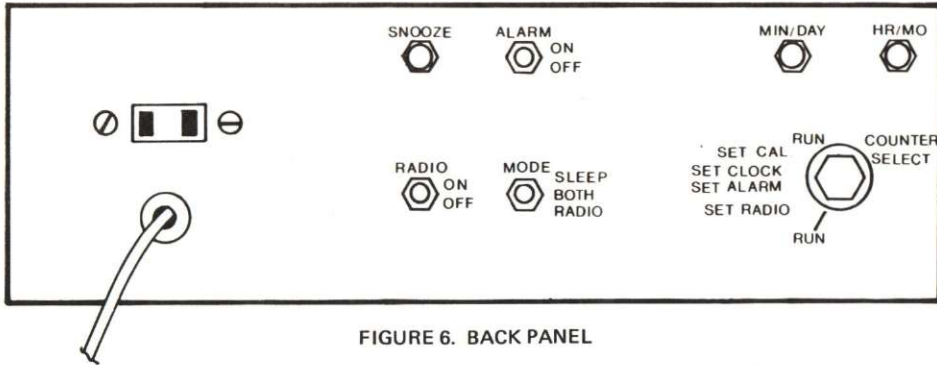

FIGURE 6. BACK PANEL
8. Label the rest of the controls according to Figure 6.